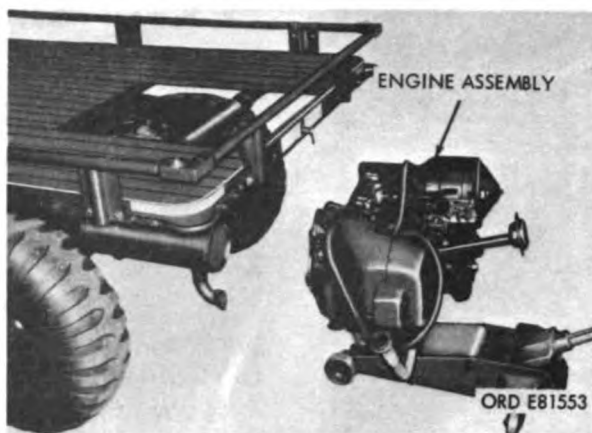

Figure 2-7. Removing or installing engine assembly.
t. Lower engine and move it away from vehicle (fig. 2-7). Recommend two persons for this operation.